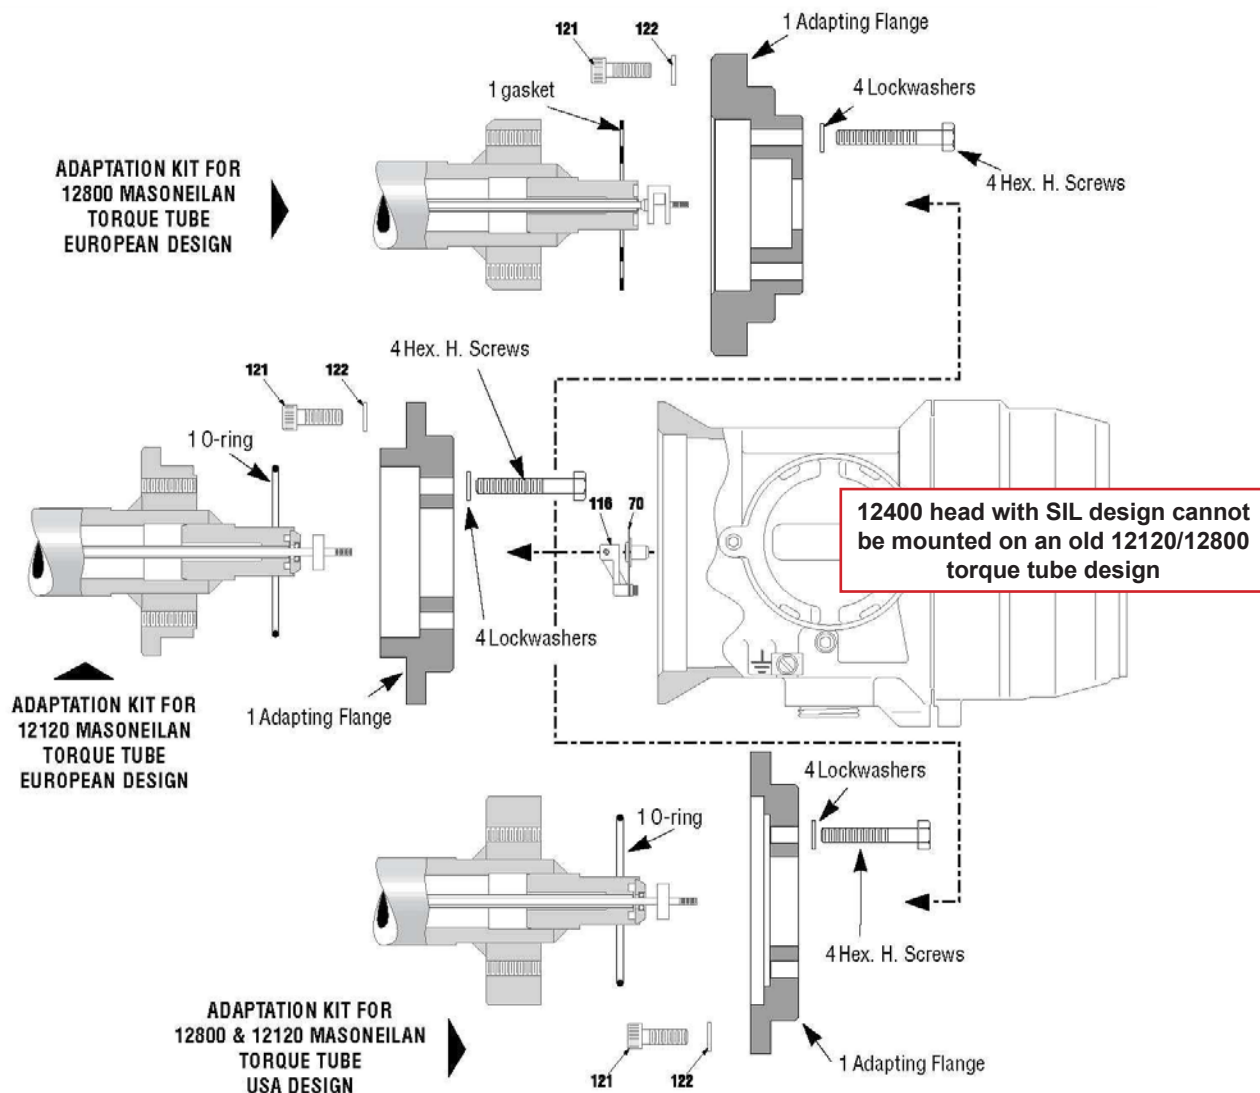

Figure 22 - Adaptation on 12800/12120 torque tube
- a. Switch off power supply. Unscrew safety screw (106) until it disengages from the case and remove the cover (104) of the connection compartment. Disconnect supply wires from terminals (90).
- b. Remove cover (107) of the mechanism compartment. Remove the spring arm (242) from the pin (243) on the beam to disengage and relax it.
- c. Using a 2.5 mm hex wrench, loosen screw (62) to uncouple the beam (54) from the torque rod.
- d. While holding the case to prevent it from falling, loosen the four screws (121), using a 5 mm hex wrench, and remove them along with the washers (122). Remove the case by pulling it along the axis of the torque tube while being careful to prevent from any deformation of the coupling flexure (70).
- e. If the original case or an identical one is reinstalled on the same torque tube, do not remove the coupling flange (116) from the torque rod. Also, do not disconnect the coupling flexure subassembly (70). As an alternative, loosen screws (119) using a 1.5 mm hex wrench and remove the coupling flange-flexure sub-assembly (116-70).
- f. If the torque tube is not dedicated to 12400 instrument, remove the DLT case adapter kit, if necessary. This kit includes a flange, a gasket, and screws, (see Figure 22).
9.2.2 On a 12120 or 12800 Series Torque Tube (Figure 22)